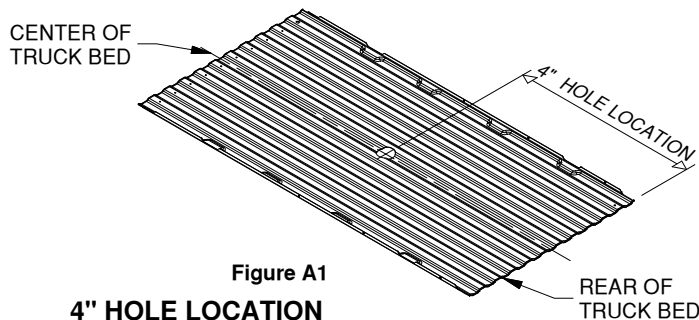

Figure A1
- 5. Mark the 4" hole location.** Using a tape measure hooked over the rear edge of the bed (at tailgate end), measure the location for the hole as shown in Figure A1. Next, locate the center of the bed by measuring the distance between the wheel wells and dividing by two. The center of the hole will be at the intersection of the center of the bed and the first distance measured.